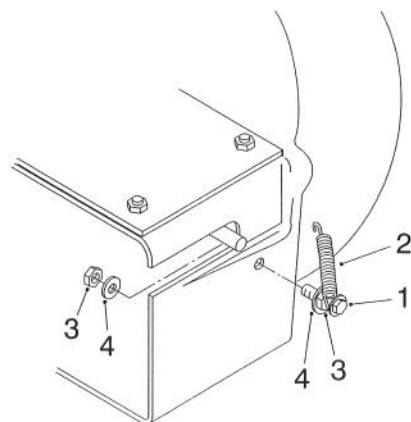

Figure 4
4. Insert a #10 x  $\frac{3}{4}$ " screw through the extended loop at the end of the tension spring (Fig. 4). Screw one #10 nut to within  $\frac{1}{8}$  inch (3.2 mm) from the screw head, allowing the spring to pivot freely (Fig. 4).
5. Slide one  $\frac{7}{32}$ " flat washer onto the spring and screw assembly (Fig. 4). Insert the screw through the hole in the blower housing from the outside and secure it in place with another flat washer and nut (Fig. 4). Tighten the nut.